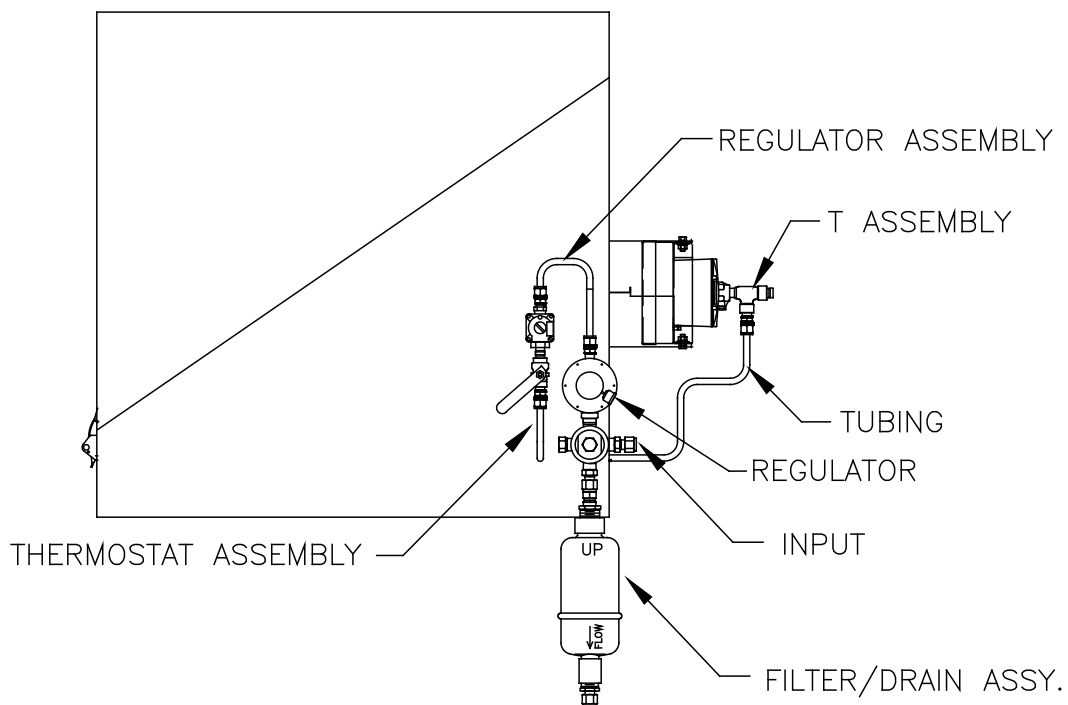

Figure 3-50 Regulator and Filter/Drain Assembly Installed
- 5) Screw the threaded end of the T assembly into the 1/4" female fitting located on the **factory-installed Catalytic heater**, by turning the entire assembly clockwise until tight (see Figure 3-50).
- 10) Insert tube end of thermostat assembly through the exterior wall on the side of the enclosure (see Figure 3-50).
- 14) Hold the regulator assembly with the curved tubing up, above the protruding tubing. Screw the ferrules and nut onto the nipple (see Figure 3-50).